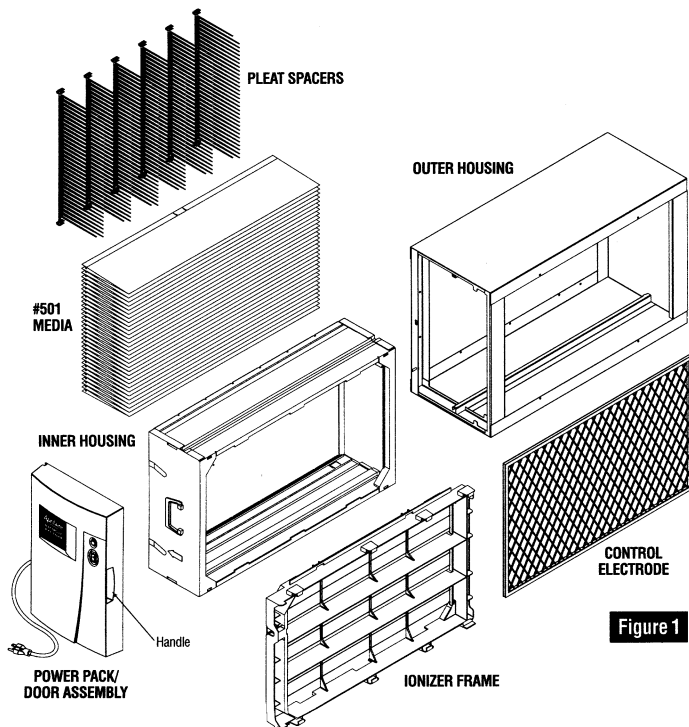

Figure 1
Step 1: Remove power pack/door assembly from air cleaner by pulling on recessed handle (see Figure 1 for air cleaner components).